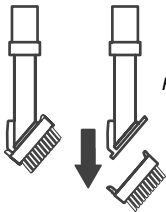

Figure 1.4
- Remove the brush head to use the fur removal tool which loosens hair on fabric and carpet. **[Figure 1.4]**